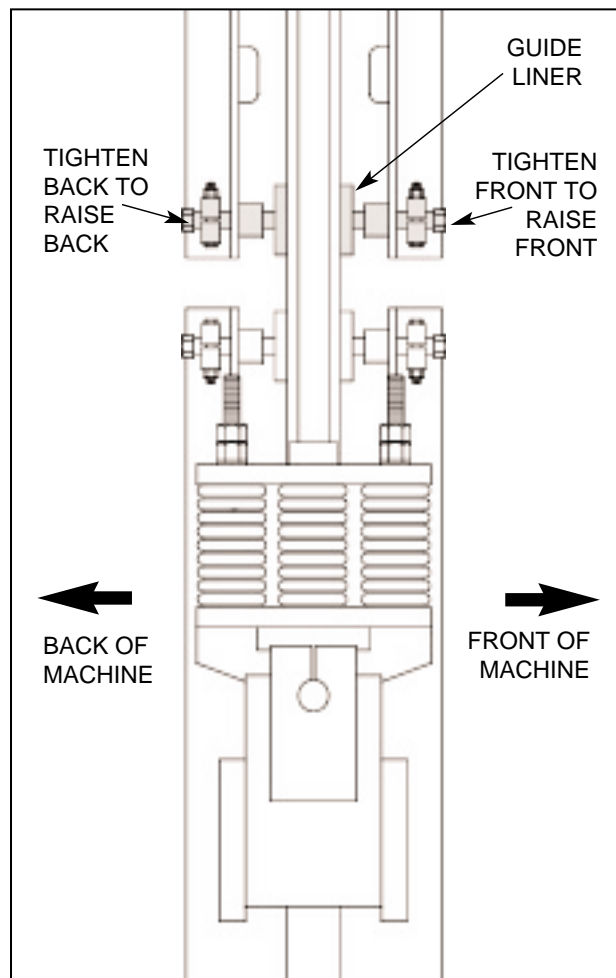

Figure 5.32 STRIPPER HEAD FRAME ADJUSTMENT.
5.7.5 Make adjustment on the right hand side by backing one lower stripper head guide liner away from the slide shaft and tightening the other against the slide shaft. To raise the front, loosen rear and tighten front. To raise the back, loosen the front and tighten the rear (see figure 5.32).